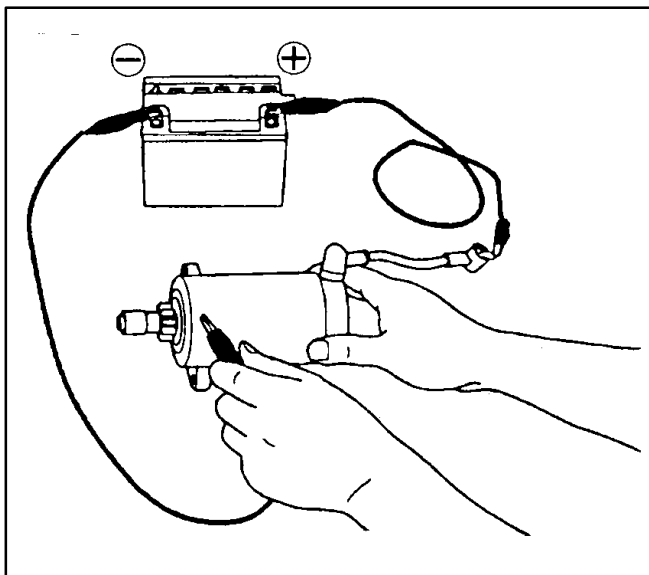

FIGURE 6-17. STARTER SOLENOID TEST, GH280 ENGINE
4. Connect a jumper lead from the battery positive (+) to the lead removed in step 3 (Figure 6-17).
1. Connect a jumper lead between the battery positive (+) terminal and the starter solenoid "S" terminal (Figure 6-17).